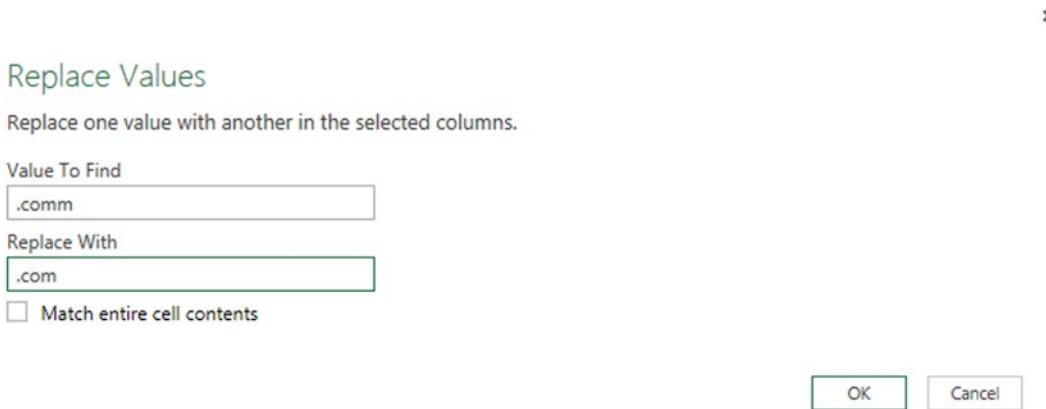

Figure 23-7. Cleaning up the e-mail address column using the Replace dialog
3. Replace .comm with .com, as shown in Figure 23-7.